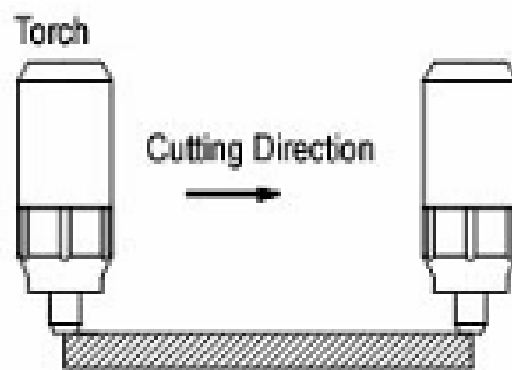

Figure 3
- b. Connect the Torch Control Cable to the Torch Trigger Connection. See Figure 3.
- c. Connect the Grounding Cable to the ground connection. See Figure 3.